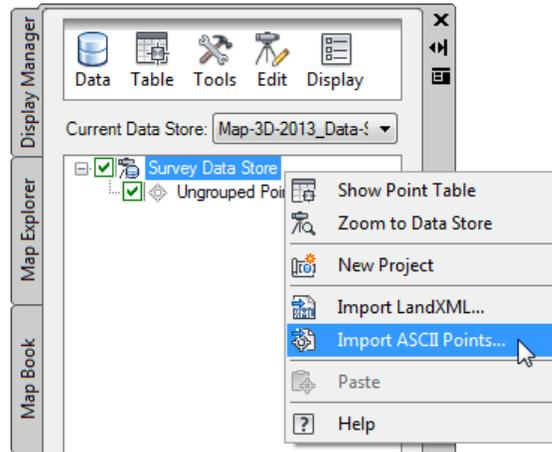

Figure 2-33 Choosing the **Import ASCII Points** option from the shortcut menu
2. Choose the **Import ASCII Points** option from the shortcut menu, as shown in Figure 2-33; the **Import ASCII Points** dialog box is displayed.